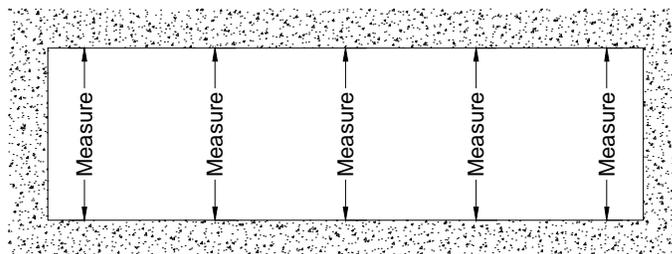

Fig. 30.3
- Measure the height of the opening (Rough Opening) at several points along the entire width of the opening. When using an expansion horizontal select the smallest of these dimensions and subtract 1-1/2" to allow a minimum of 1/2" at the sill and 1" at the head for shim and caulking. For typical installations select the smallest of these dimensions subtract 1" to allow a minimum of 1/2" at sill and head for shim and caulking. **SEE Fig. 30.3.**